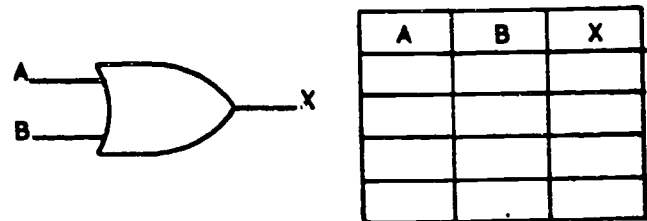

Figure 1-24. Figure for objective 001, exercise 11.
11. Construct the truth table for the logic symbol shown in figure 1-24.